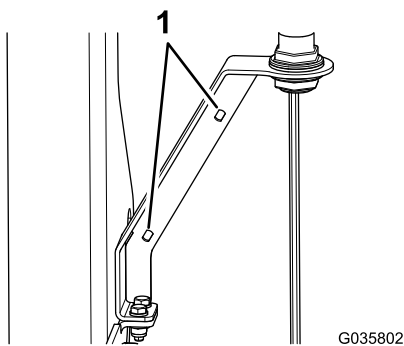

Figure 14
9. Insert a cable tie through each of the 2 holes in the beacon bracket (Figure 14), and secure the cable.